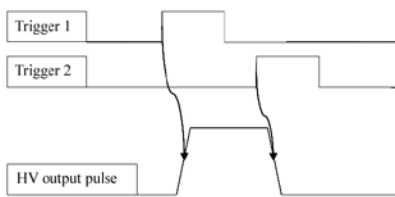
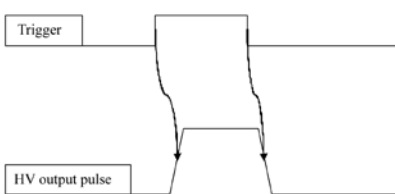

Fig. 3. Control timing charts for two-pulses controlled drivers
Fig. 4. Control timing charts for single pulse controlled drivers
PCD-UHR series drivers has two modifications by control inputs. PCD-UHR1 drivers are controlled by one triggering pulse while rising edge turns on high voltage to Pockels cell and falling edge turns off – see Fig. 4. for reference. PCD-UHR2 drivers are controlled by two triggering pulses that are applied to separate inputs of the driver, see Fig. 3.
– single triggering pulse control	Fig. 4
– two trigger pulses control	Fig. 3